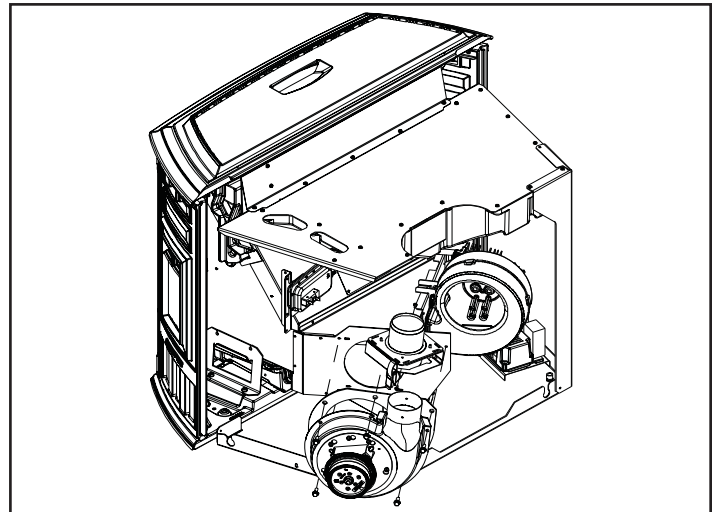

Figure 25.3
1. The combustion blower is mounted in the bottom right rear of the appliance. **Figure 25.3.**